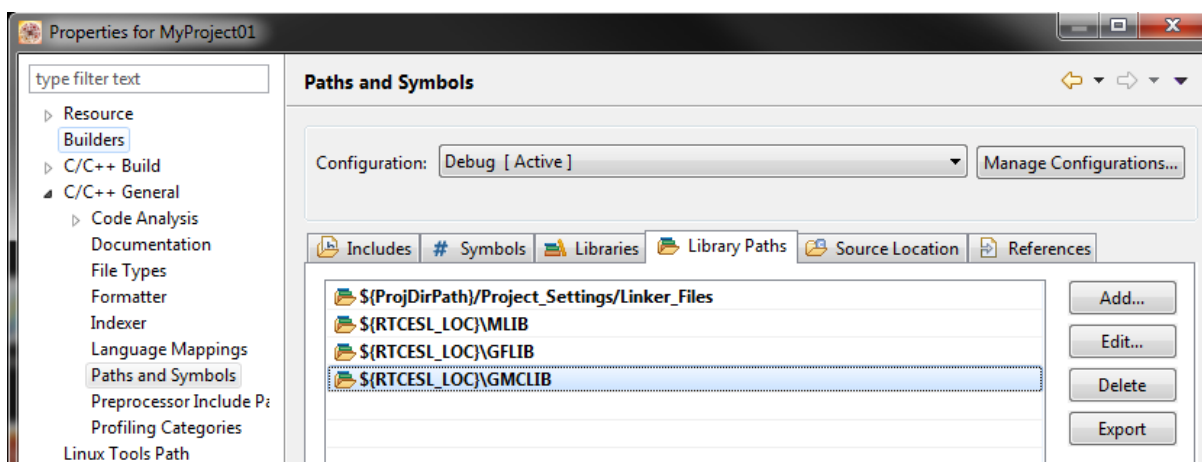

Figure 1-11. Library paths
3. In the right-hand dialog, select the Library Paths tab. See Figure 1-11.
10. Click OK, and the paths will be visible in the list. See Figure 1-11.